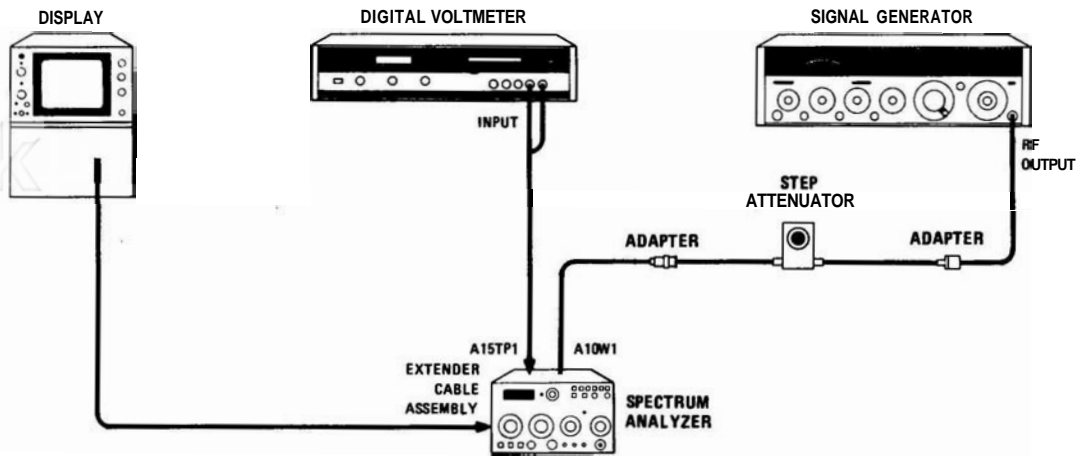

FIGURE 5-3. LOG AMPLIFIER LOG AND LINEAR ADJUSTMENT TEST SETUP
2. Connect equipment as shown in Figure 5-3. Set signal generator frequency to 321.4 MHz and output level to  $-40$  dBm. Remove A10W1 from A5J2 2nd CONV OUT. Connect signal generator output through step attenuator and adapters to A10W1.
10. Reconnect signal generator as shown in Figure 5-3. Set Amplitude Scale to 10 dB/DIV and set step attenuator to 40 dB.